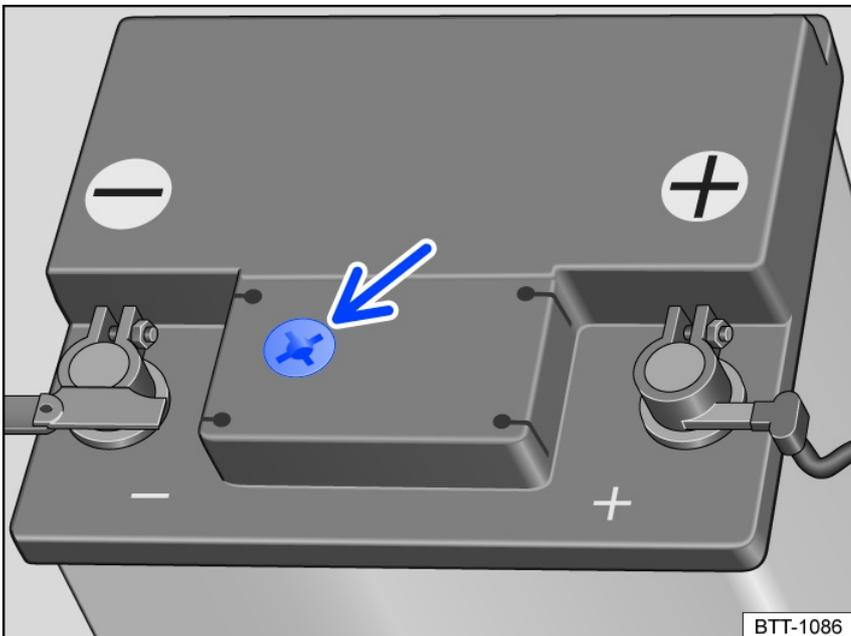

Fig. 199 Window on the top of the 12 V vehicle battery (general example).
- Make sure there is enough light to clearly see the color indicator in the circular window on the top of the 12 V vehicle battery (arrow) *fig. 199*. Never use open flames or smoldering objects to provide light.